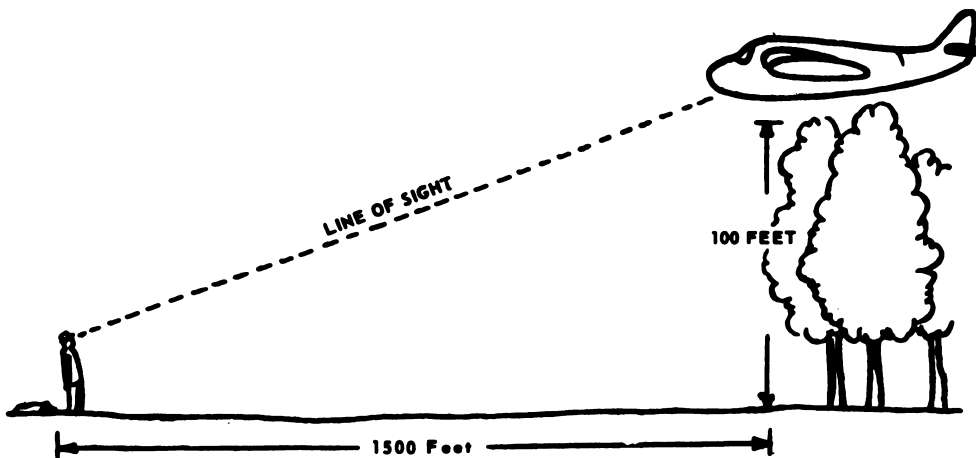

Figure 4. "Mask" clearance ratio 15:1.
(2) The distance between markers is usually 50 meters.
(3) In executing drops, the aircraft is aligned as accurately as possible 50 meters to the right of the right-hand row of markers. The drop is made when the aircraft becomes adjacent to the last light in the right-hand row.
(4) Markings must be clearly visible to the pilot of the approaching aircraft. The formula for determining mask clearance is 15 units of horizontal distance to 1 unit of vertical distance (a ratio of 15 to 1 for each unit of obstruction). As an example, markings shown in figure 4 are placed 1,500 feet from a 100-foot mask of vegetation and a terrain feature.